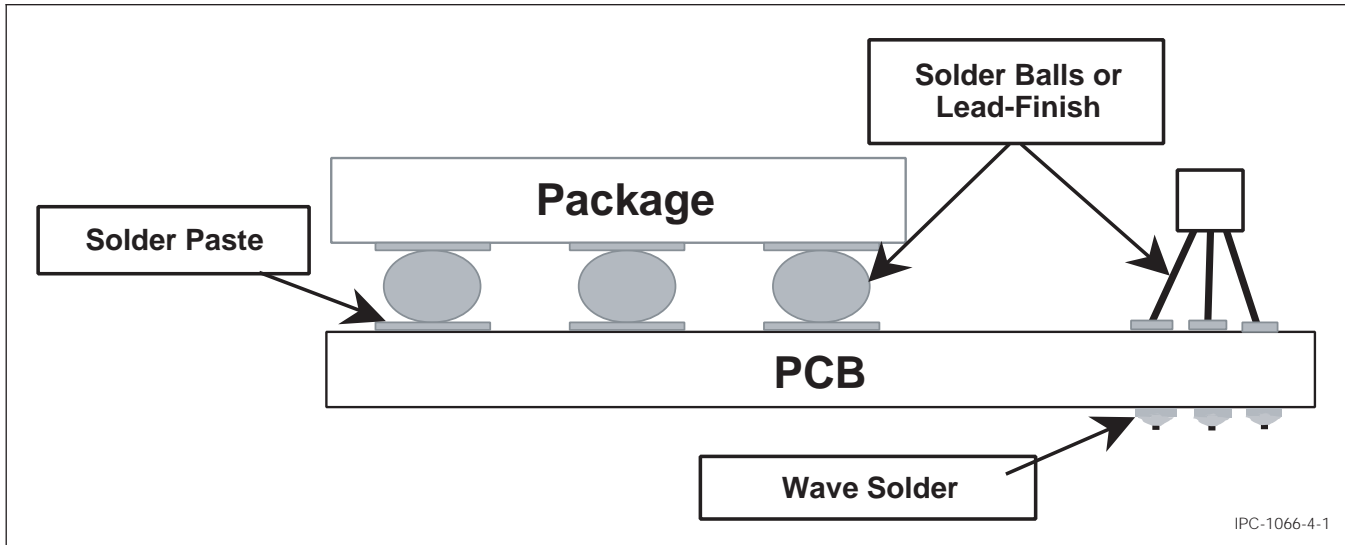

Figure 4-1 2nd Level Interconnect
**3.1 2nd Level Interconnect** The interconnect made by attachment of a device/component to a printed circuit board (see Figure 4-1).